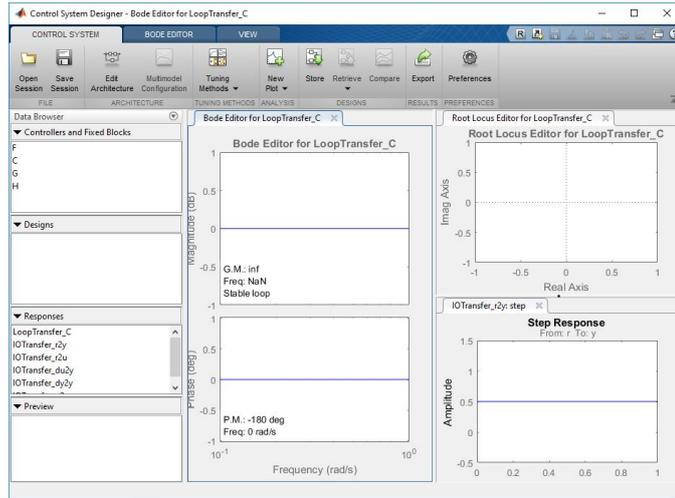

Figure 3.3: Control System Designer Window
- Now you will use a MATLAB tool to simplify the design process. (See <http://www.mathworks.com/help/control/getstart/iso-design-tool.html> for a detailed description of this tool.) Type *controlSystemDesigner* in the MATLAB command window. (Depending on the version of MATLAB that you have, you may need to use the command *sisotool* instead.) You should see the windows shown in Figure 3.3 (depending on the version of MATLAB that you are using).